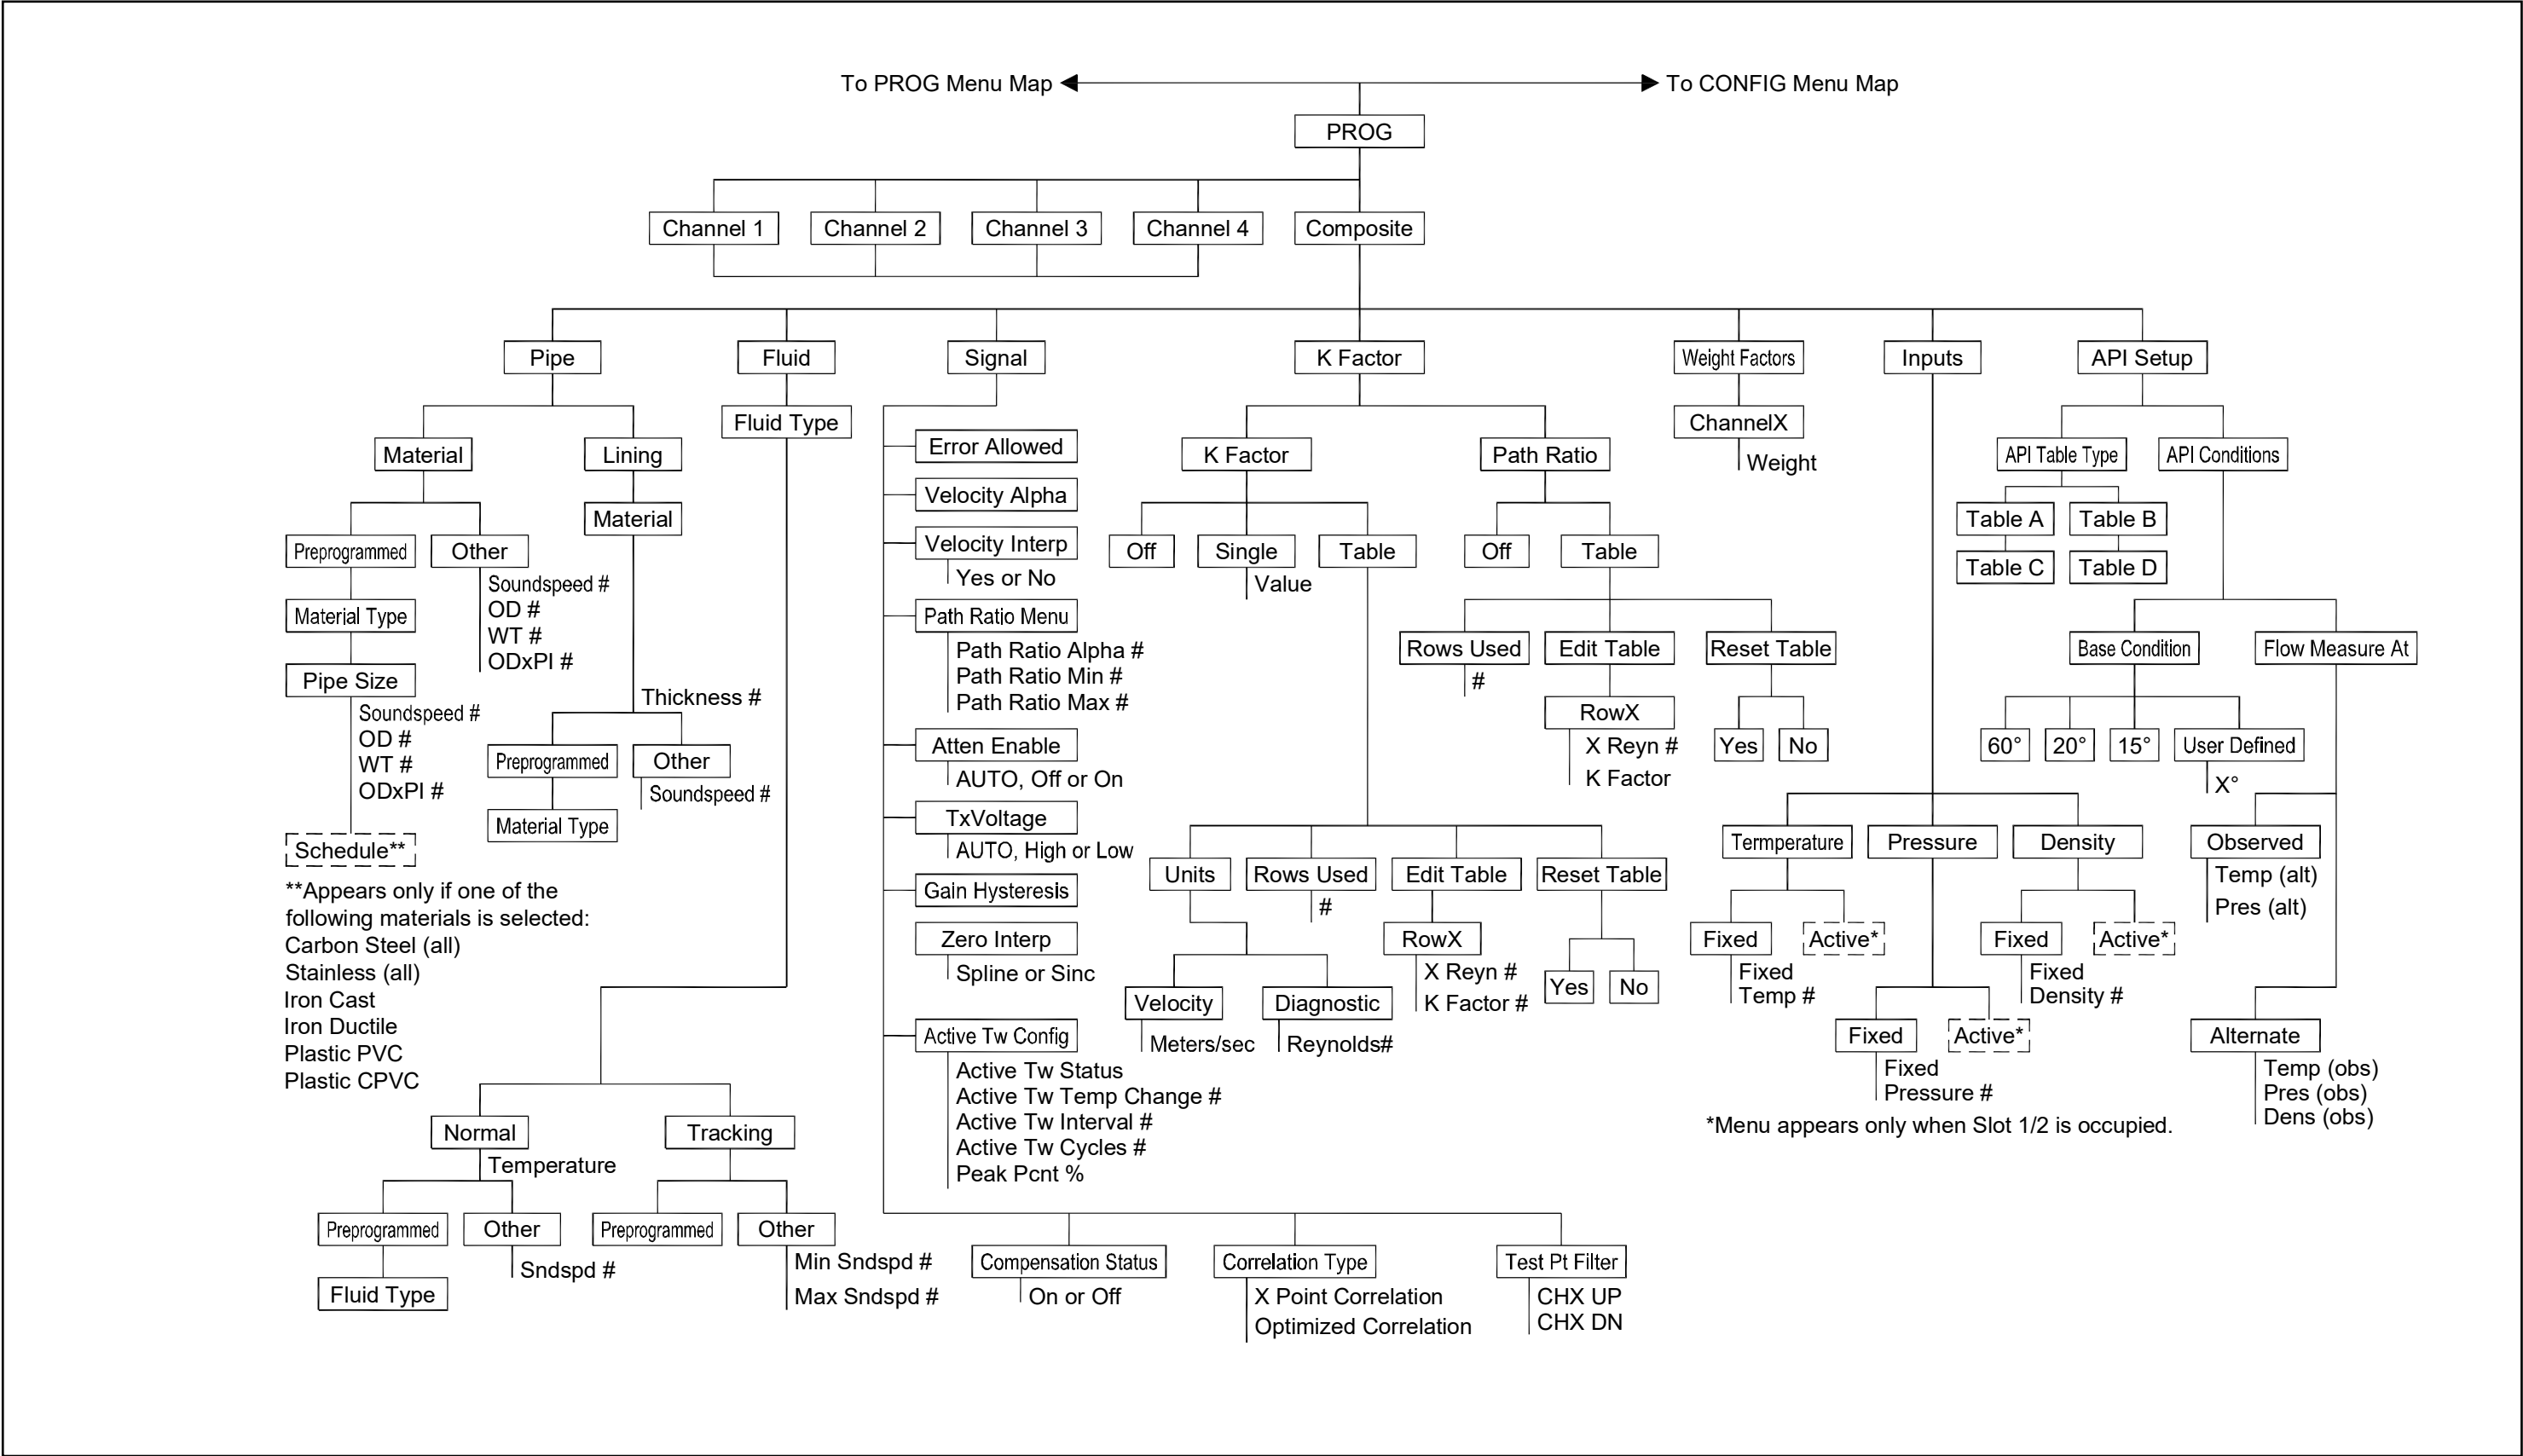

Figure 234: PROG Composite Menu Map
- *Figure 234: PROG Composite Menu Map*